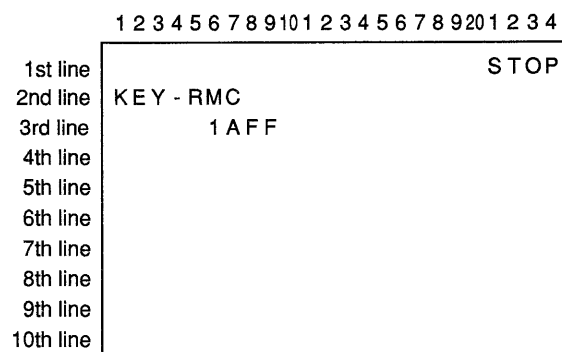

Fig. 7-7. Key and remote control data
The one byte (2 digits in hexadecimal notation) on the left of the 3rd line in Figure 7-7 is the SIRCS code of the key input data of the main unit, and that on the right is the SIRCS code of the input data by the remote control unit. When no key is pressed or there is no input, “FF.” appears. When two keys are pressed almost at the same time, the SIRCS code of the input data by the first pressed key will appear.
An example in Figure 7-7 shows that the playback key (1A in hexadecimal notation) on the main unit is pressed but there is no input (FF in hexadecimal notation) from the remote control unit. However, note that, in some cases, the remote control unit generates SIRCS codes momentarily only at the moment when the key is pressed.